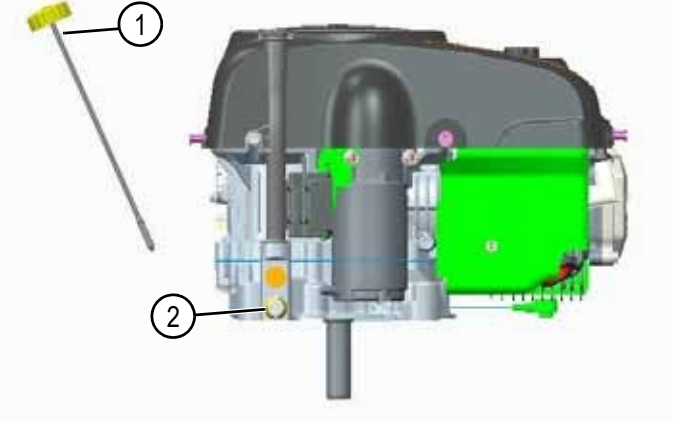

Figure 3-1: Oil Drain Bolt and Dipstick
- 1. See Figure 3-1. Clean the area around oil filter cap/dipstick and oil drain bolt.